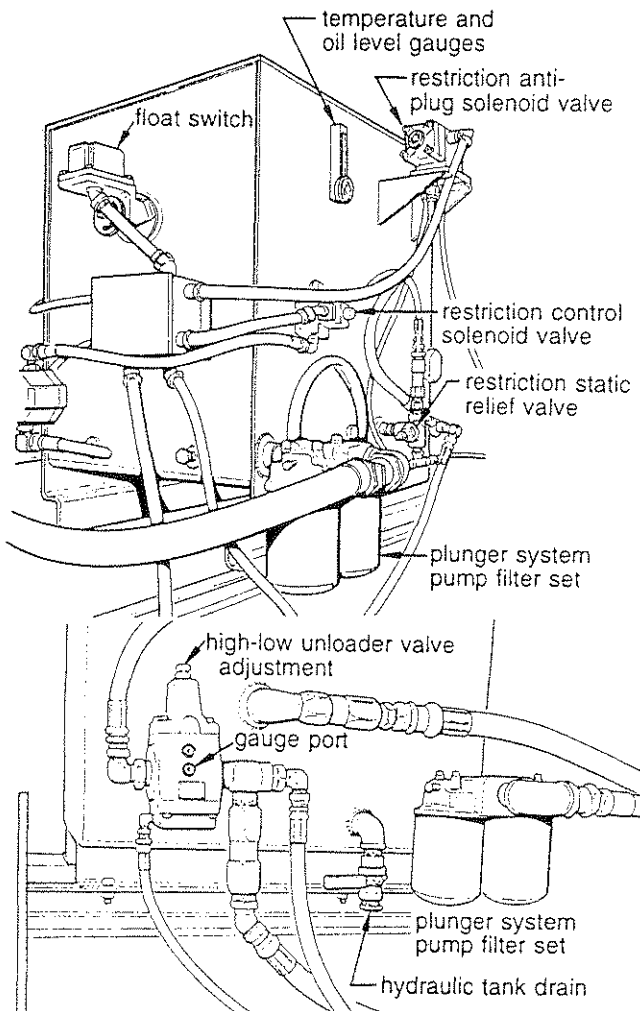

Fig. 36 Two plunger system filter sets
1. **CHECK HYDRAULIC OIL, FILTERS** Check the oil level in the reservoir, it should be within 3 inches of the tank top. Check the filters for tightness (fig. 36).
4. **INSTALL GAUGE IN HIGH-LOW UNLOADER VALVE PORT** Stop the motor and remove the 1/4 inch O-ring port plug of the high-low unloader valve (fig. 36). Install a pressure gauge (5,000 psi) into the port opening. The pressure gauge is used in the following step 6 adjustment of the high-low unloader valve.